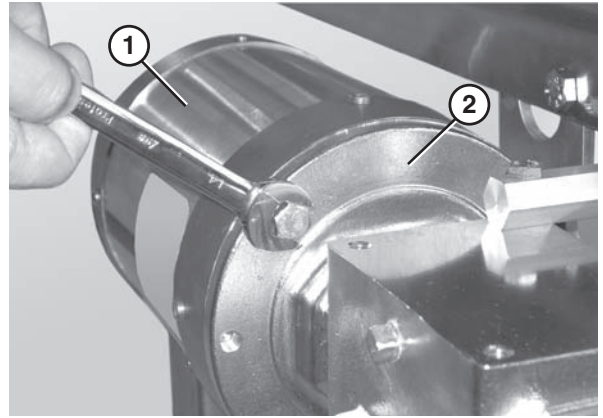

Figure 46
1. Remove the bolts that connect the motor (Figure 46, item 1) to the gear reducer (Figure 46, item 2).